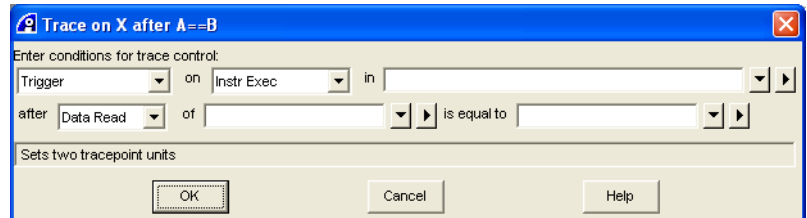

Figure 7-10 Trace on X after A==B dialog box
1. Select **Debug** → **Tracepoints** → **Trace on X after A==B...** from the Code window main menu to open the Trace on X after A==B dialog box. Figure 7-10 shows an example: